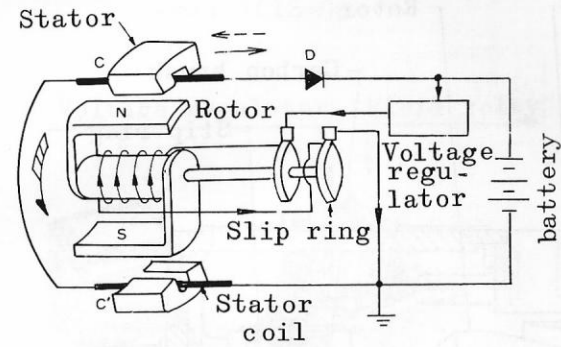
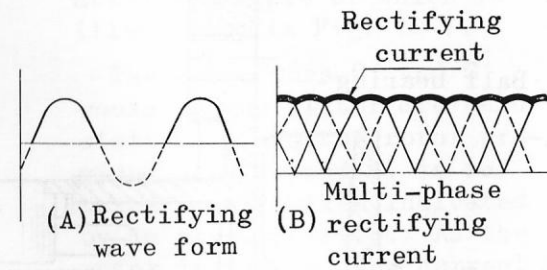

Fig. 10-7
Fig. 10-8
induce the current in the stator coil held statically around the rotor, the operating principle of which is illustrated in Fig. 10-7.
The conductors C. and C' would on the stator are held statically and the rotor provided with N. and S. is rotated in direction indicated by an arrow marking. As the rotor is turned, the current induced flows through the conductor in a direction indicated by arrow and reaches the battery via the diode. When the rotor is turned half a way, the induced current tends to flow in a counter-clockwise direction as represented by the dotted line in Fig. 10-7-(b) in the conductor, however, it is held from flowing in a reverse direction by the inherent characteristic of the diode and thus, only the rectified current having the waveform of DC current is allowed to reach the battery. The theoretical waveform of which is as illustrated in Fig. 10-8-(a), however, the current generated by the 3-phase alternator is practically rectified into the direct current by the six (6) silicone diodes, the waveform of which is illustrated in Fig. 10-8-(b).